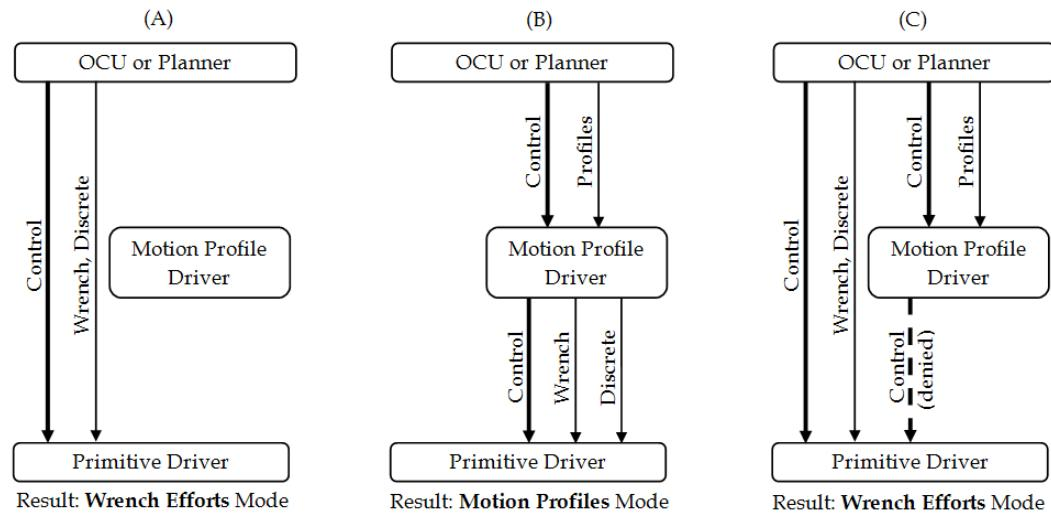

Figure 5. Resultant vehicle mode for a given control schema.
The control mode refers to the type of command messages the XGV should execute – wrench efforts and discrete devices (throttle %, brake %, steer %, transmission gear, engine on/off), or motion profiles (curvature and speed). Two different JAUS components, the Primitive Driver (PD) and the Motion Profile Driver (MPD) are responsible for handling these messages, and an OCU or planner sets the control mode by requesting control of the proper component, as illustrated in Figure 5.
In Figure 5(a), a control station or planner has obtained control of the Primitive Driver, placing the XGV into Wrench Efforts control mode. In Figure 5(b), a control station or planner has obtained control of the Motion Profile Driver, which in turn obtains control of the Primitive Driver; the vehicle is now in Motion Profiles control mode. Finally, in Figure 5(c), both the